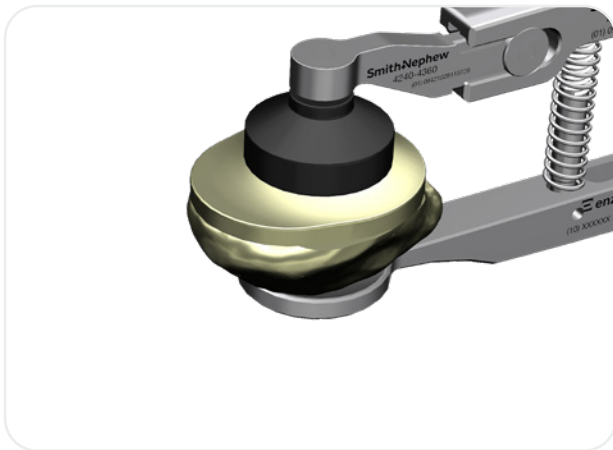

Figure 55
4. Clamp the patellar implant into the bone and remove the extruded cement (**Figure 55**).